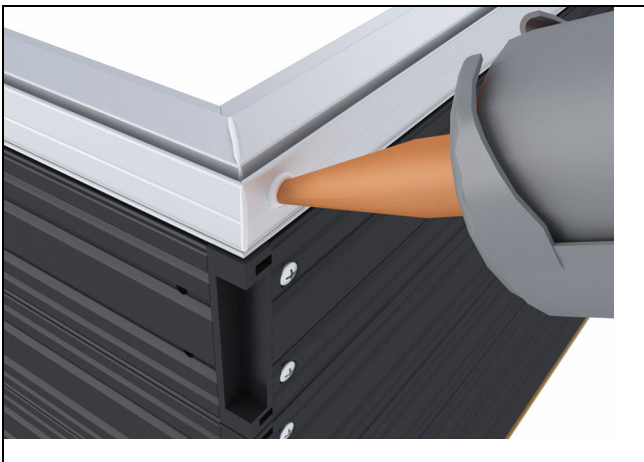

Figure 91
10. Inject both frame cladding corner key holes with sealant until squeeze out occurs. Fasten using #8 x 1 1/2" screw into each corner key. See figure 91.